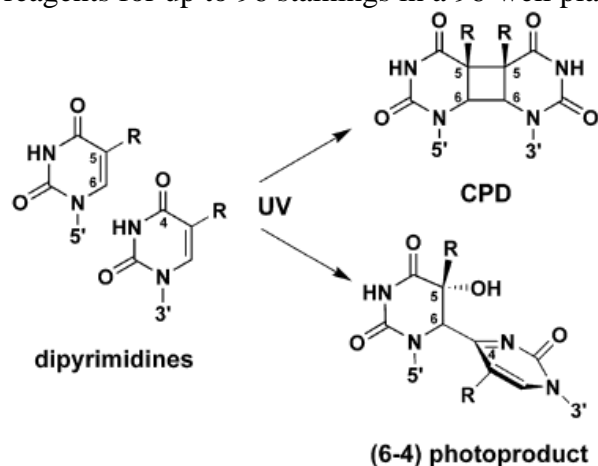

Figure 1: Structures of DNA lesions induced by UV Light
Absorption of ultraviolet (UV) light produces two predominant types of DNA damage, cyclobutane pyrimidine dimers (CPD) and pyrimidine (6-4) pyrimidone photoproducts (6-4PP) (Figure 1). The result is a transition of C to T and CC to TT, which are the most frequent mutations of p53 in both human and mouse skin cancers. UV damaged DNA is usually repaired by nucleotide excision repair (NER) or base excision repair (BER). After UV exposure, cells activate p53 and stall the cell cycle for repair. If the damage is too severe, the cell will trigger apoptosis to get rid of DNA damaged, potentially mutant cells.